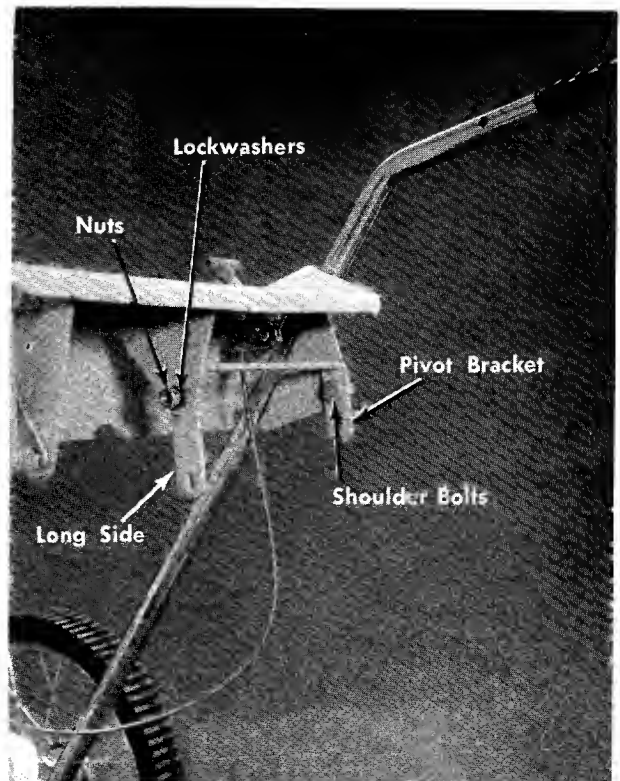

FIGURE 8
14. Assemble the pivot bracket, with the long side to the left, with two shoulder bolts, lockwashers and nuts. See figure 8.
Assemble both shoulder bolts from the inside as shown in figure 8.